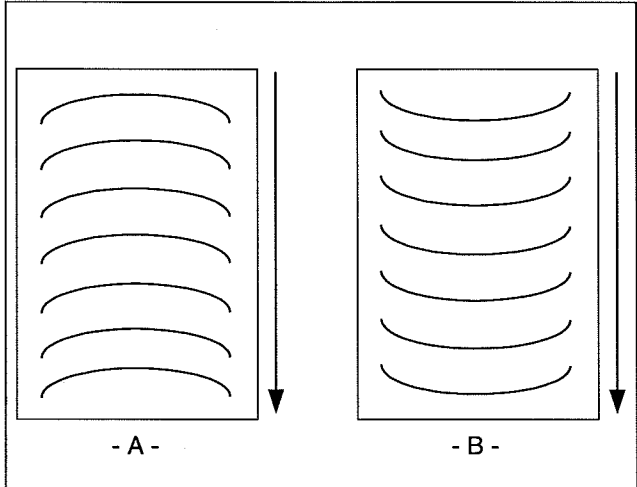

Fig. 47
1. "D" waves in the image (Figure 47 A).
2. "D" waves in the laminate (Figure 47 B).